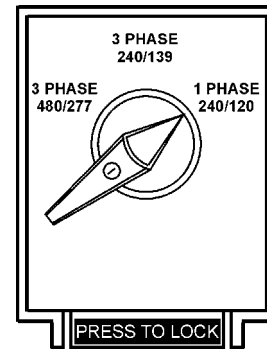

Figure 41. Voltage Selector Switch
1. Place the **voltage selector switch** in the desired voltage position (Figure 41)..